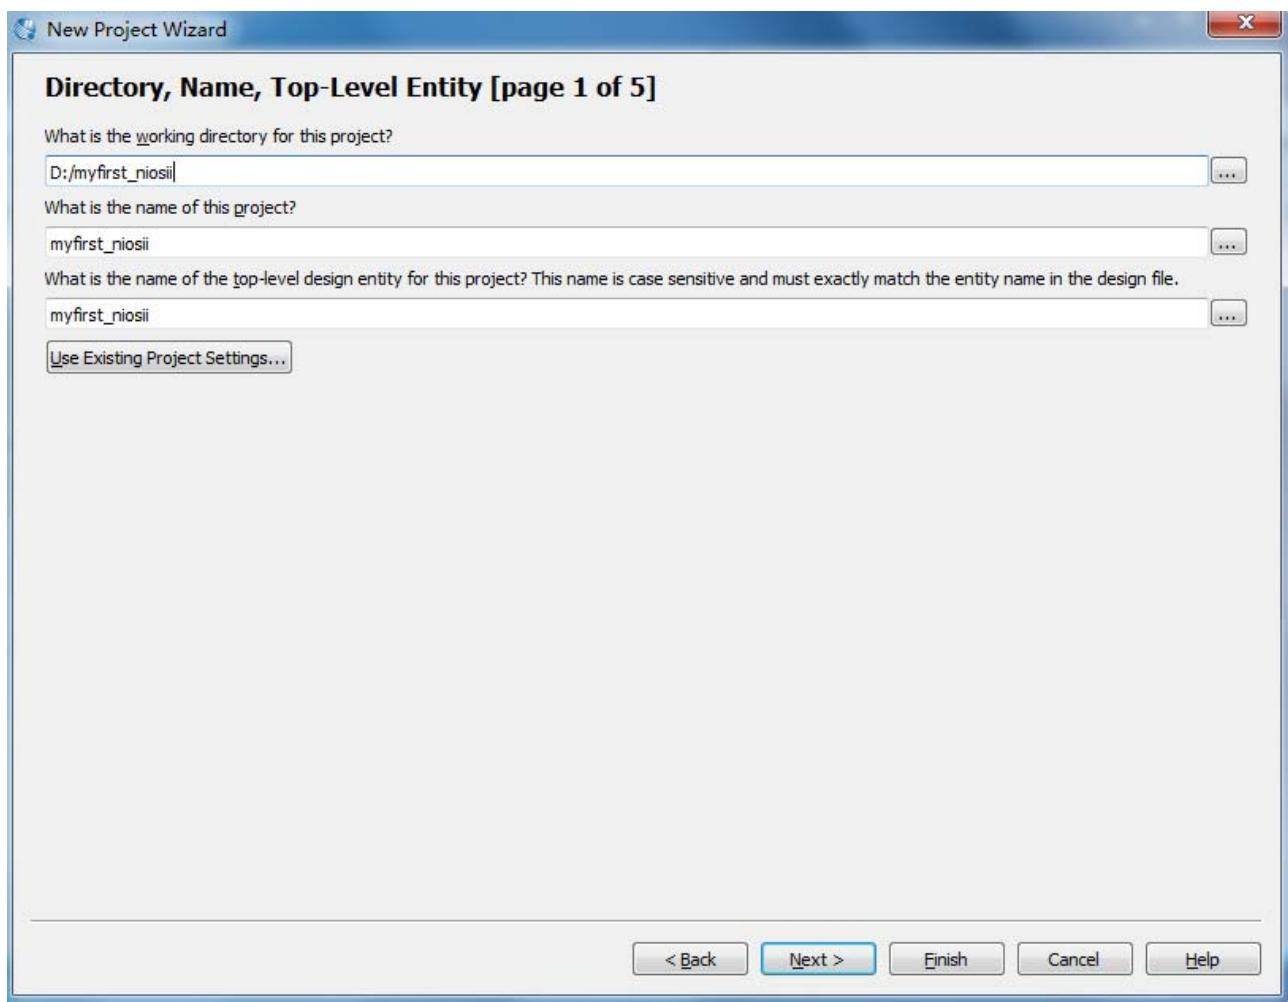
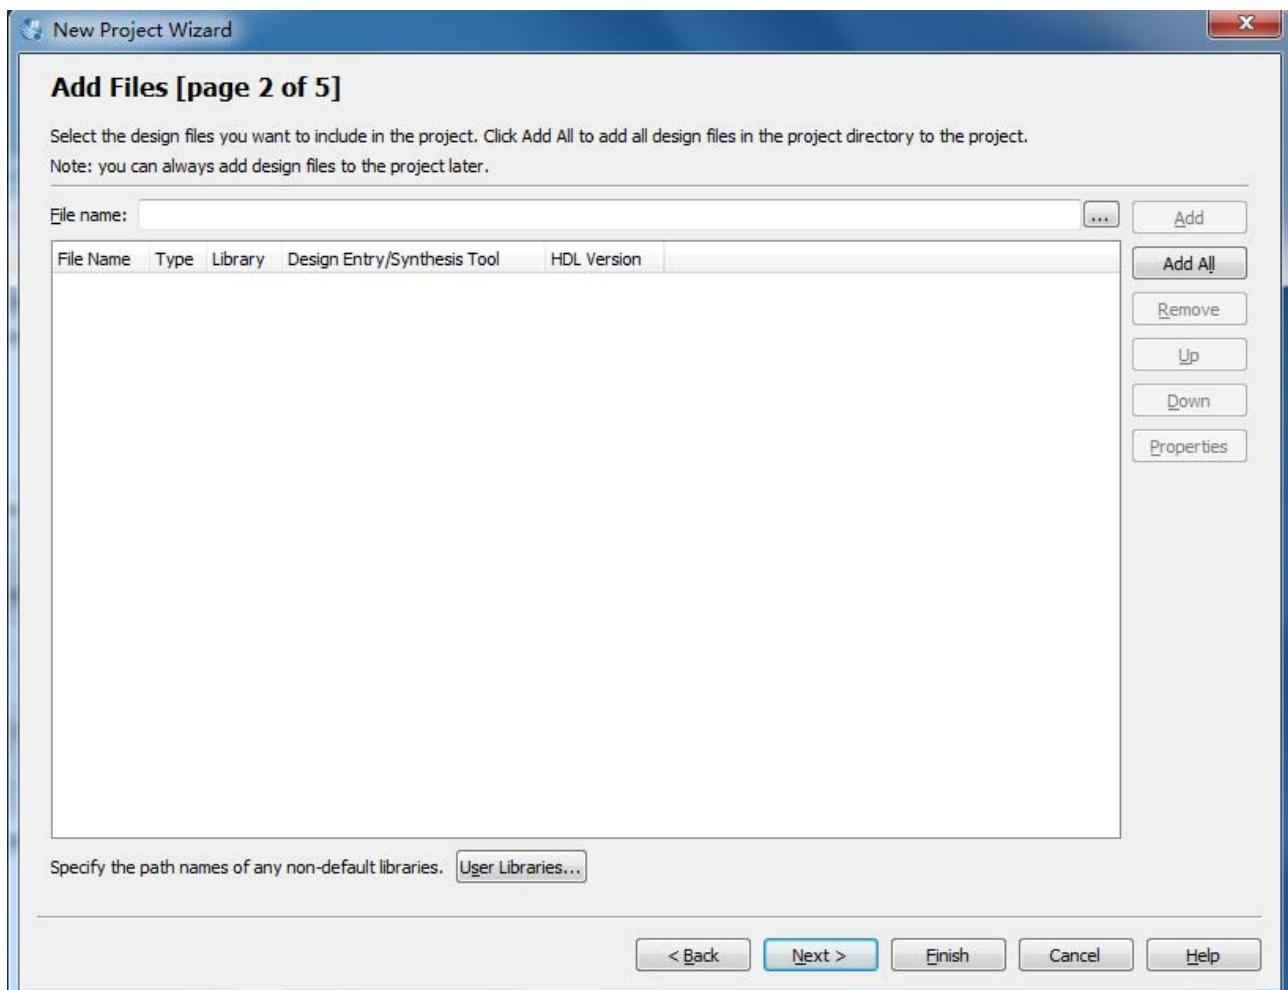

Figure 1-3 Input the working directory, the name of project, top-level design entity
Figure 1-4 New Project Wizard: Add Files [page 2 of 5]
2. Choose a working directory for this project, type project name and top-level entity name as shown in **Figure 1-3**. Then click Next, you will see a window as shown in **Figure 1-4**.